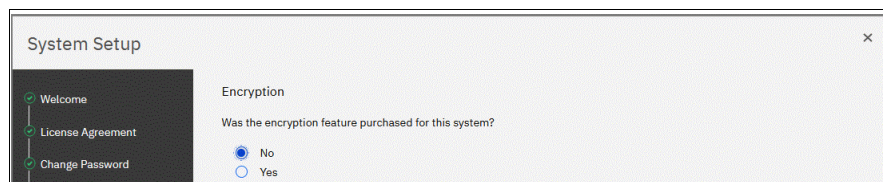

Figure 12-5 Encryption activation during initial system setup
1. Select **Yes** (see Figure 12-5).